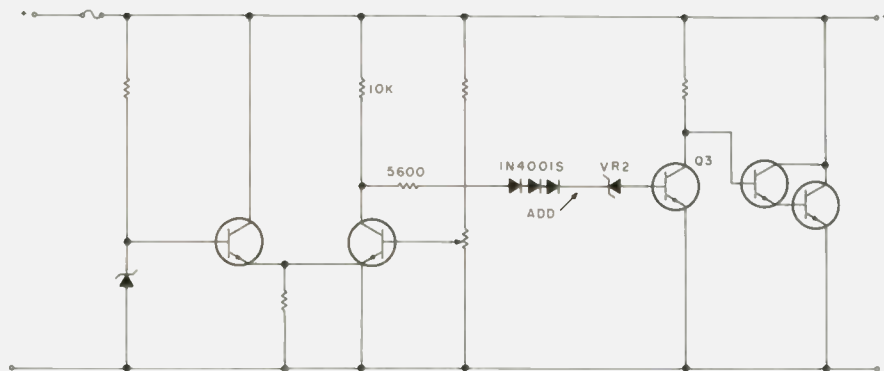

Fig. 2. Improved overvoltage protection circuit.
characteristic. This property will be helped along in the right direction by connecting 2 or 3 1N4001s (or other cheap silicon diodes) in series with VR2 as shown in Fig. 2. An alternative solution would be to use a 6.8- to 8.2-volt zener for VR2.
4. Connect Q1 collector to the junction of the 10k and 5600-Ohm resistors that used to be tied to Q2 collector. See Fig. 2.